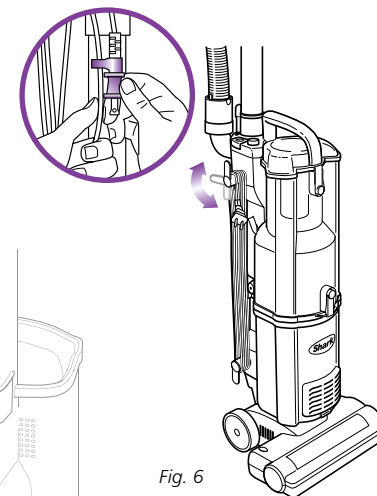

Fig. 6
- 6** When storing your vacuum, wind the power cord around the two cord holders and secure with cord clip. (Fig. 6)